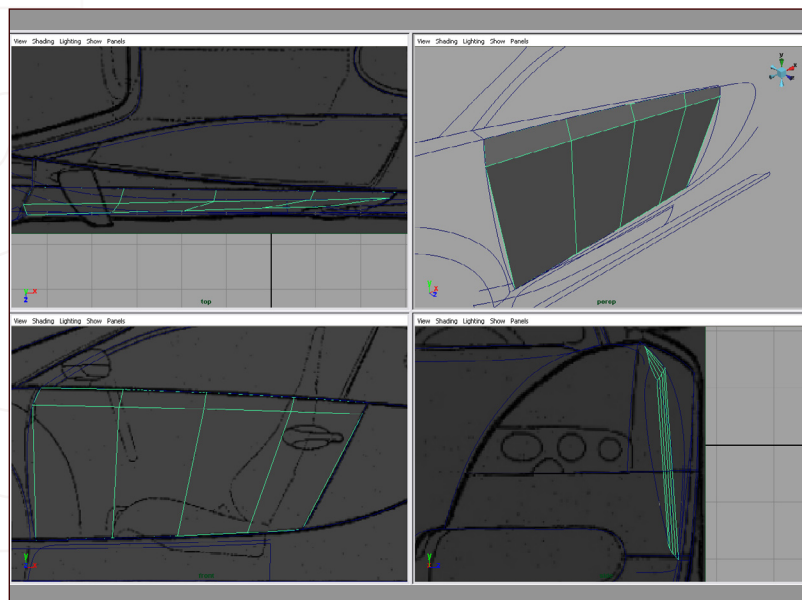

Fig 15
11. This process can be seen in **Fig14**, **Fig15** and **Fig16**. Notice how the edges towards the top of the door are closer together? This is because the door has quite an extreme bulge at the top and then curves inwards slightly towards the bottom. A quick tip for finding dents in your mesh is to sight down rows of verts and look for verts that are unevenly distributed along the surface.